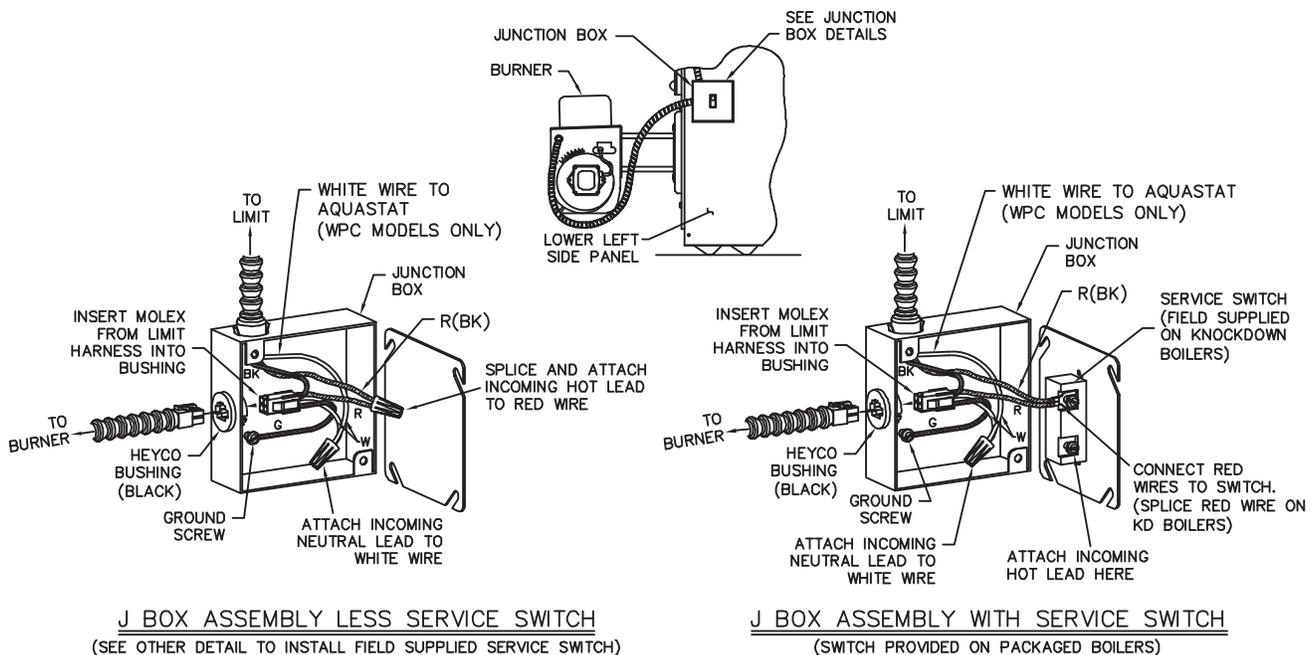

Figure 4.1: Junction Box Wiring, Steam and Knockdown Water Boilers
2. Install junction box, limit harness, and Heyco bushing, each located in the trim carton. See Figure 4.1. Mount junction box to the holes in the right side of jacket with (2) #10 x 1/2" sheet metal screws. Attach Heyco bushing to 7/8" knockout in left side of junction box. Connect limit harness to 7/8" knockout on top of junction box and insert limit harness Molex connector into Heyco bushing until it snaps firmly in place.